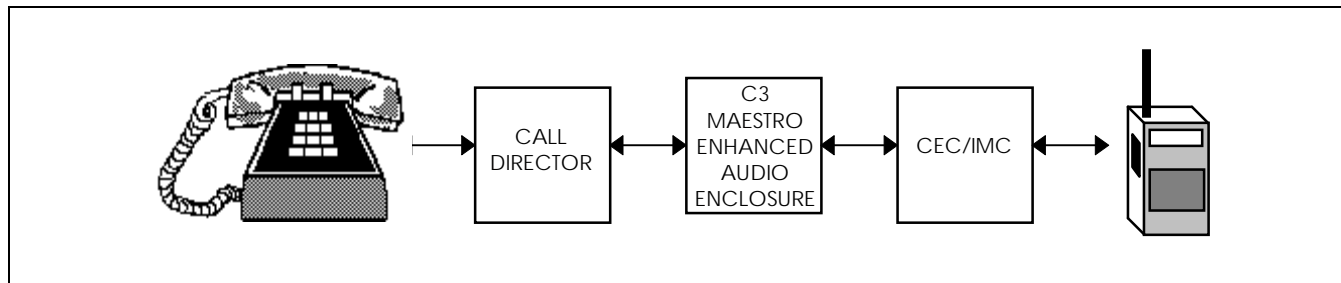

Figure 3 – Basic Call Director Patch Audio Routing
In addition to normal dispatch operations, the C3 Maestro console system can be connected to Call Director (CD) telephone equipment. This feature allows the C3 Maestro to "patch" a telephone line to a specific unit, talk group, conventional channel or radio patch in the CEC/IMC network. See Figure 3.